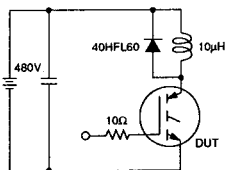

Fig 12a. Clamped Inductive Load Test Circuit
- ② $V_{CC} = 80\%$ (BV_{CES}), $V_{GE} = 20V$, $L \geq 10\text{ }\mu\text{H}$, $R_g = 10\Omega$, (See figure 12a)